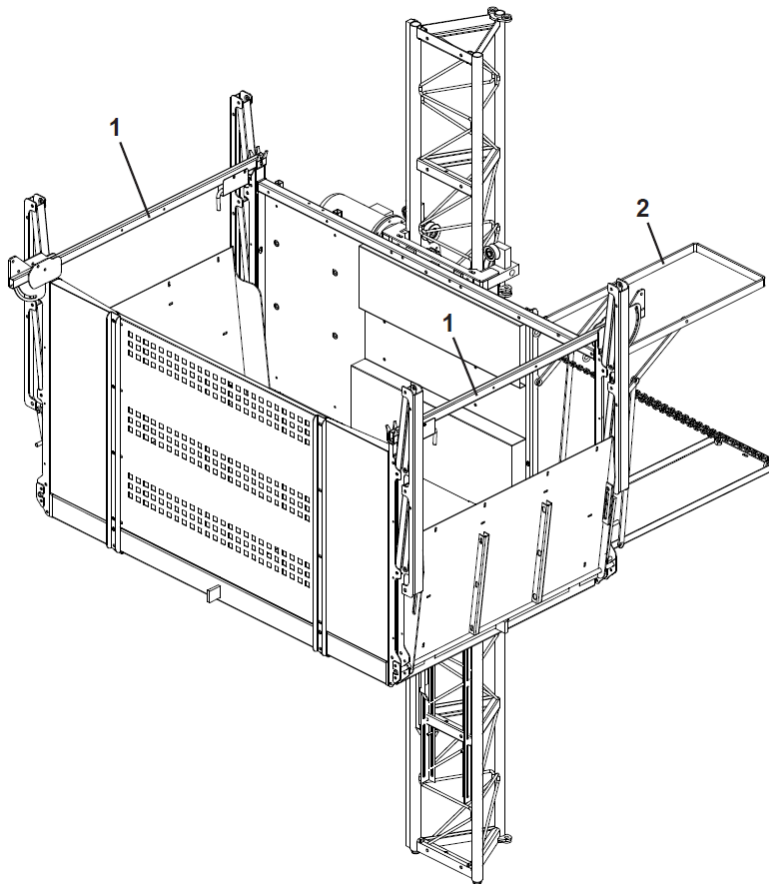

Figure 8.3
The guards are shown in figure 8.3; the bars (1) allow closing the upper part of ramps giving access into the loading unit; the movable bar (2) is the upper guard of platform used for assembling the wall anchors.